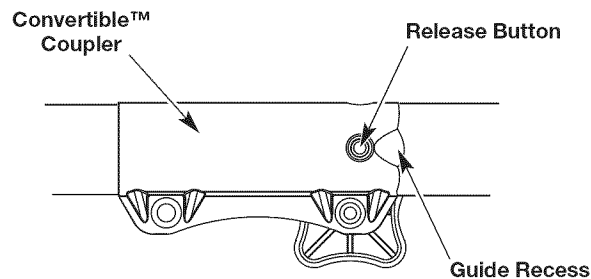

Fig. 7
**NOTE:** Aligning the release button with the guide recess will help installation (Fig. 7).
2. Press and hold the release button (Fig. 7).